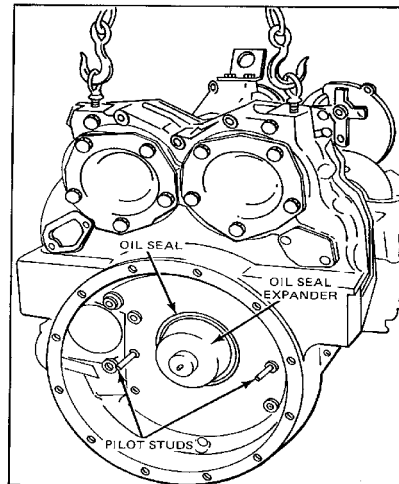

Figure 1. Removing or Installing Flywheel Housing
8. To guide the flywheel housing until it clears the end of the crankshaft, thread two pilot studs J 7540 into the cylinder block (Fig. 1).